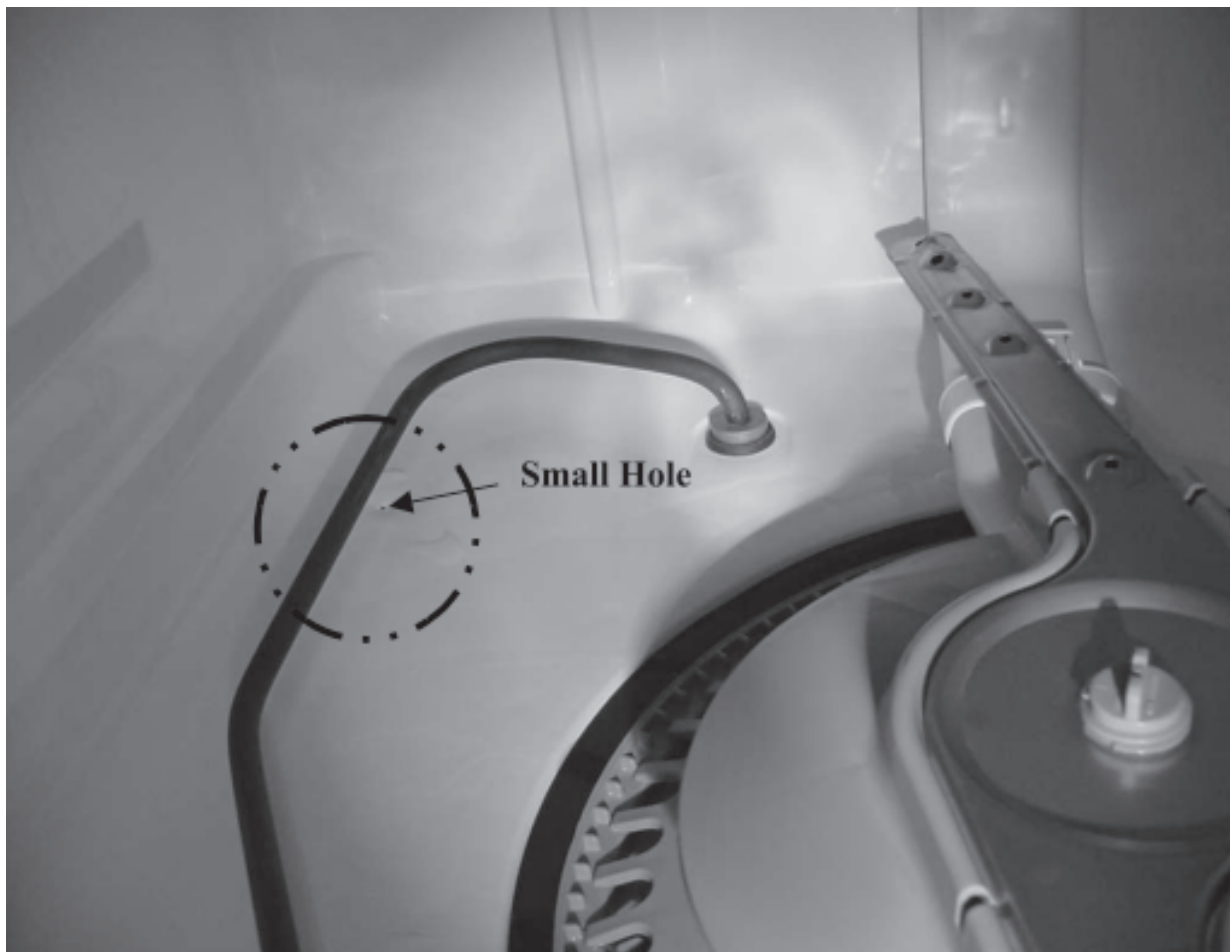

FIGURE 13
28. If evidence of a crack or small hole is found in the tub, follow the standard repair procedure for this type of failure. (See figure 13, below). Otherwise, proceed to the next step...